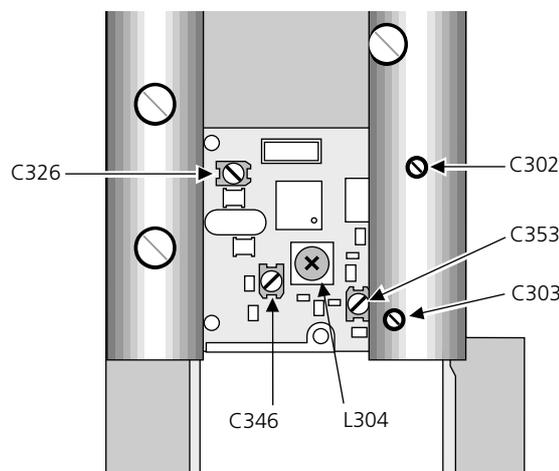

Figure 25. U912RXD in alignment insert showing alignment points.
- 10 Adjust C302, C303, and C353 for max gain, see figure 25 below. Repeat until no further improvement is obtained. The different trim capacitors affect each other.